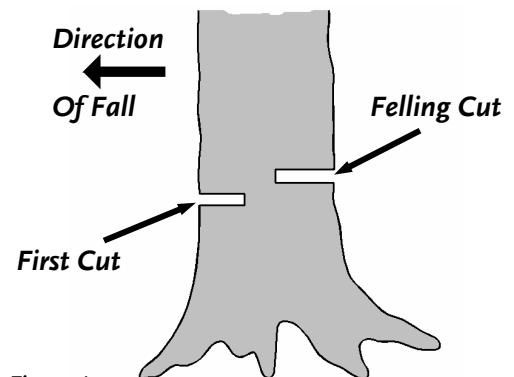

Figure 4
1. Balance the Trimmer on the wheels to the desired height and make the first (lower) cut through 1/3 of the diameter of the tree. (See Figure 4)